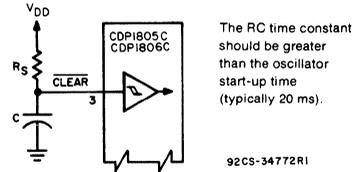

Fig. 9 - Reset diagram.
X, P, and R(0) are reset. Interrupt and DMA servicing suppressed during the initialization cycle. The next cycle is an S0 or an S2 but never an S1 or S3. The use of a 71 instruction followed by 00 at memory locations 0000 and 0001, may be used to reset MIE, so as to preclude interrupts until ready for them. Power-up reset run can be realized by connecting an RC network to CLEAR (See Fig. 9).
May be initiated from the Pause or Reset mode functions. If initiated from Pause, the CPU resumes operation at the point it left off. If paused at TPA, it will resume on the next high-to-low clock transition, while if paused at TPB, it will resume on the next low-to-high clock transition (See Fig. 9). When initiated from the Reset operation, the first machine cycle following Reset is always the initialization cycle. The initialization cycle is then followed by a DMA (S2) cycle or fetch (S0) from location 0000 in memory.